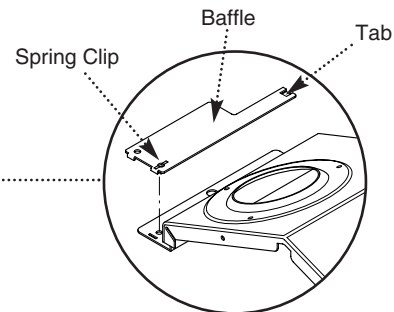

Fig. 38
12. Ease the front edge of the left hand baffle upwards, disengaging the spring clip. Disengage the tabs on the baffle from the slots in the fan hood (Fig. 38).